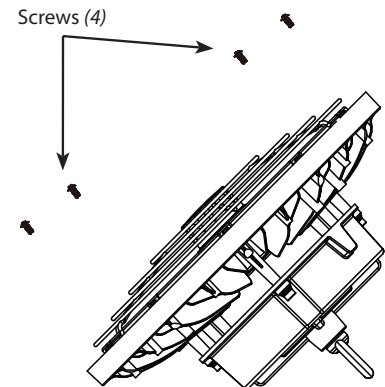

Fig: 3
3. Secure the **Wire Guard** to the **Heat Sink** with (4) 4x8mm **Screws** (provided) as shown in Fig. 3.